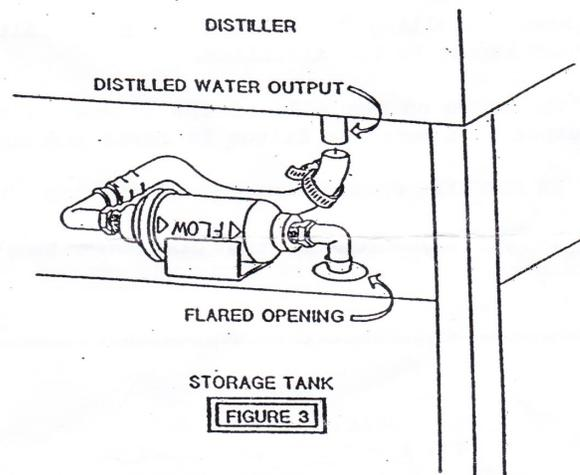

FIGURE 3
4. Place the free end of the tubing on the distilled water output of the distiller. The partially barbed elbow is placed in the flared opening of the storage tank. (Figure 3)